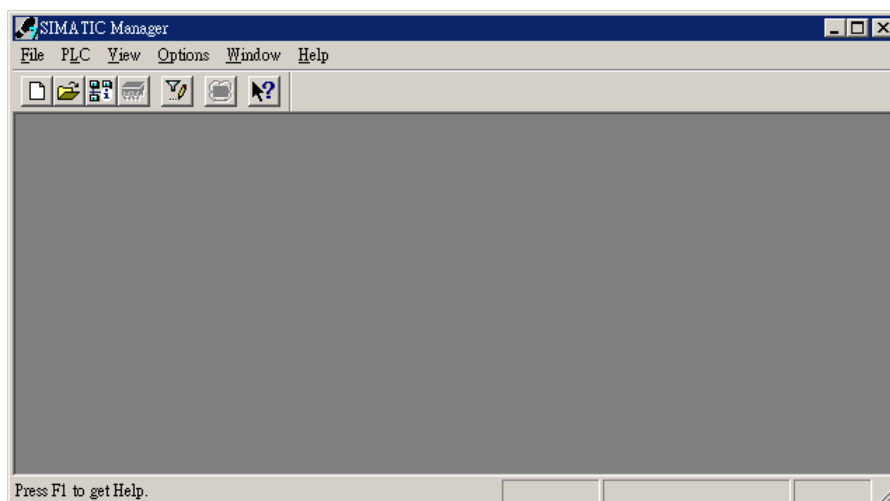

Figure 10-2
1. Open the software SIMATIC Manager, as Figure 10-2.